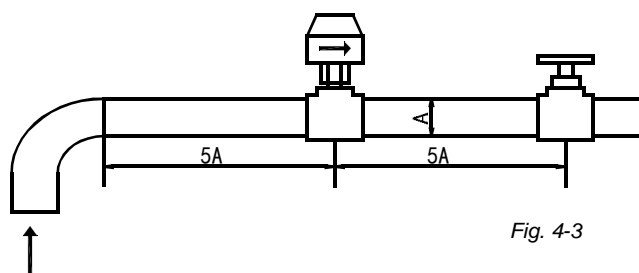

Fig. 4-3
c. The inlet pipe of the evaporator must be provided with a target flow controller, to realize flow-break protection for the unit. Both ends of the target flow controller must be supplied with horizontal straight pipe sections whose diameter is 5 times that of the inlet pipe. The target flow controller must be installed in strict accordance with "Installation & Regulation Guide for Target Flow Controller" (Figure 4.3~4.4). The wires of the target flow controller should be led to the electric cabinet through shielded cable (see Electric Controlling Schematic Diagram for details). The working pressure of the target flow controller is 1.0MPa, and its interface is 1 inch in diameter. After the pipelines are installed, the target flow controller will be set properly according to the rated water flow of the unit.
- Schematic diagram of target flow controller(see Fig.4-3 Table4-2)